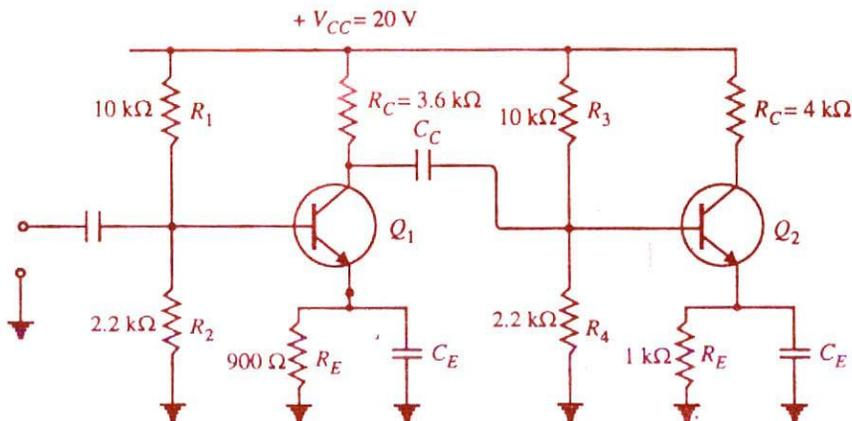

Fig. 13.10
**Example 13.13.** Fig. 13.10 shows a 2-stage RC coupled amplifier. What is the biasing potential for the second stage? If the coupling capacitor  $C_c$  is replaced by a wire, what would happen to the circuit?
**Solution.** Referring to Fig. 13.10, we have,